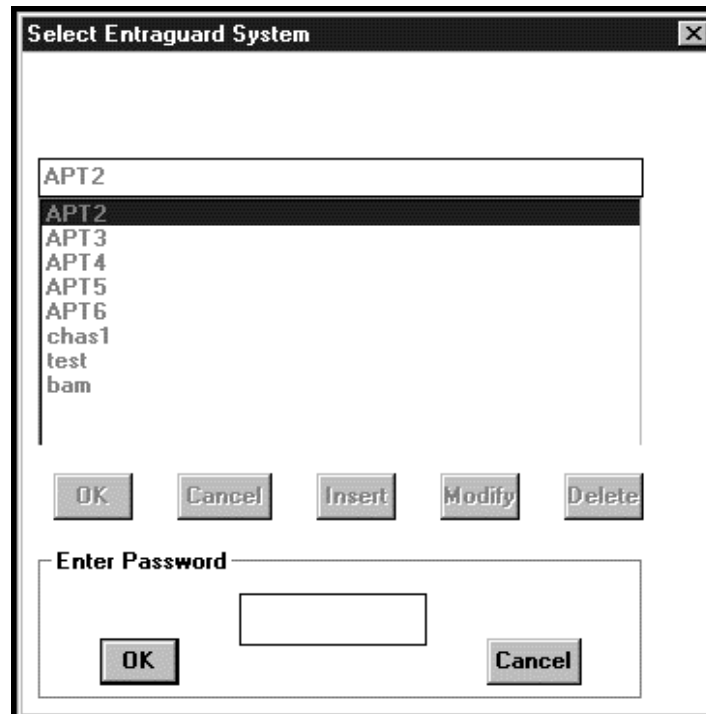

Figure 5.5.1a
a) Select an existing Entraguard System by clicking on that system name in the list box. The system name selected will appear in the top box (Figure 5.5.1a) as shown: